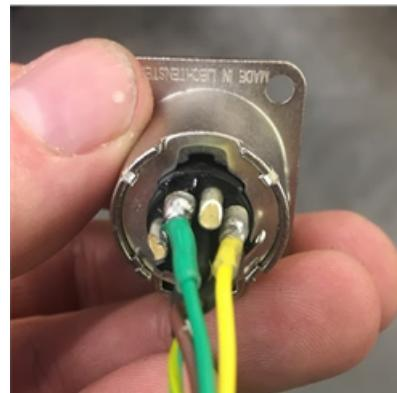

Figure 13. Swapped encoder wires
4. Swap the positions of the green and yellow wires on the XLR connector using a soldering iron. Once swapped they should look as shown in Figure 13 with yellow connected to pin 2 and green connected to pin 4.